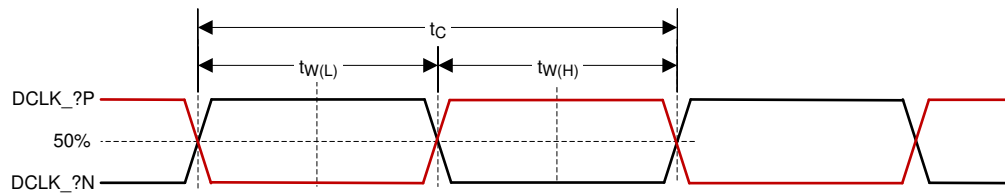

Figure 5-12. HSSI CLK Characteristics
(6) See Figure 5-12 for pulse duration high and low for HSSI.